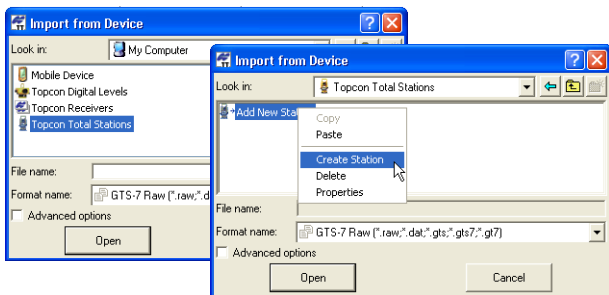

Figure 2-10. Creating a New Station
3. To add a device, right-click **Add New Station** and click **Create Station** (Figure 2-10 on page 15).